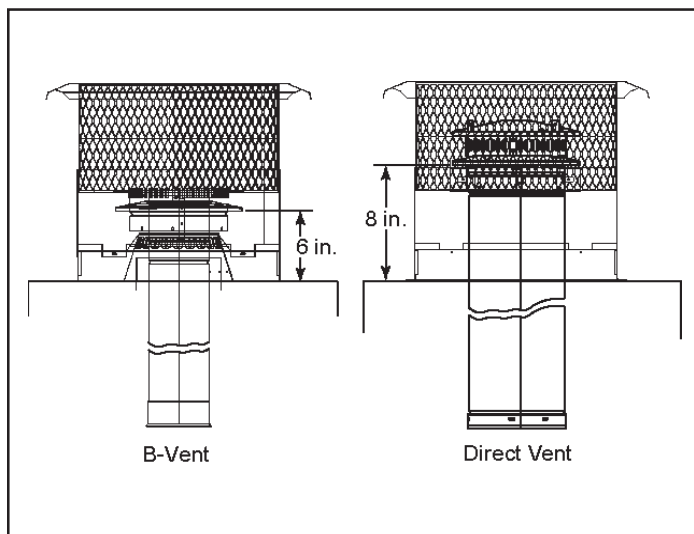

Figure 3 - Termination Cap Installation
**Note:** The b-vent cap must be installed a minimum of 6 in. above the chase top. See Figure 3.
**Note:** The direct vent cap must be installed a minimum of 8 in. above the chase top. See Figure 3.